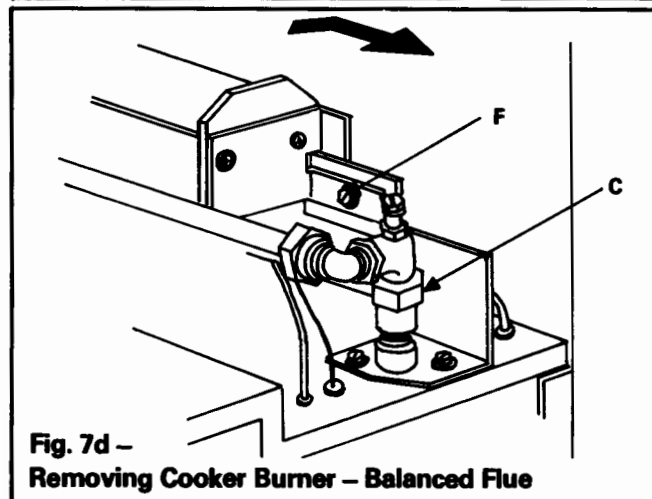

Fig. 7d - Removing Cooker Burner - Balanced Flue
- j. Remove cooker burner: Disconnect 1/4in BSP union **C** above combustion chamber base plate and remove screw **F**, then remove burner. See Fig. 7d.